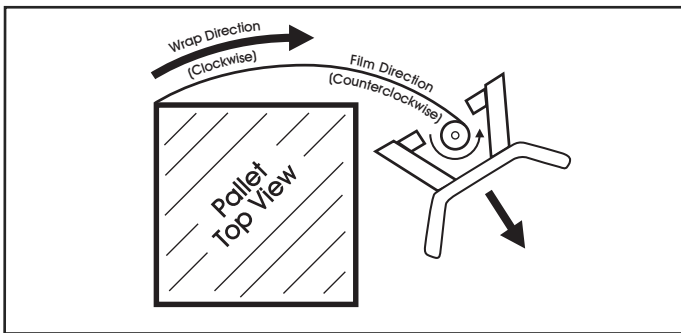

Figure 6
2. To wrap pallet clockwise, place film on lower Film Holder so that the film will feed off roll counter clockwise. (See Figure 6)
2. While film is feeding off the roll, you must wrap your product by PULLING the dispenser around the pallet insuring the film will not come in contact with the lower legs of the dispenser. (See Figure 6)